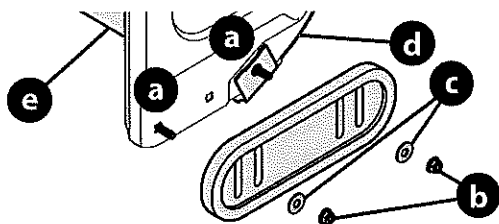

Figure 45
1. Using the two carriage bolts (a) and hex flange nuts (b) and flat washers (if equipped) (c), secure the skid shoes to the auger housing (d). Hand tighten hex flange nuts (Figure 45).